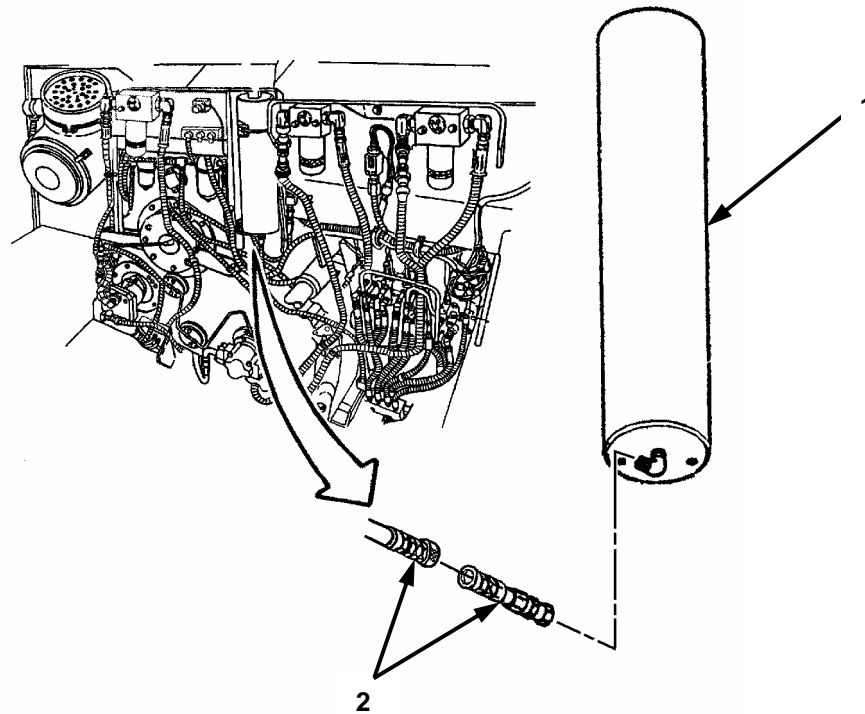

Figure 2-6. Main Hydraulic Accumulator
Step (11) below applies to Figure 2-6.
- (11) While performing FOLLOW-ON TASKS per TM 5-2350-262-34, Power Package Replacement-Installation, install quick-disconnect (2) at bottom of main hydraulic accumulator (1) with male coupling to main hydraulic accumulator.